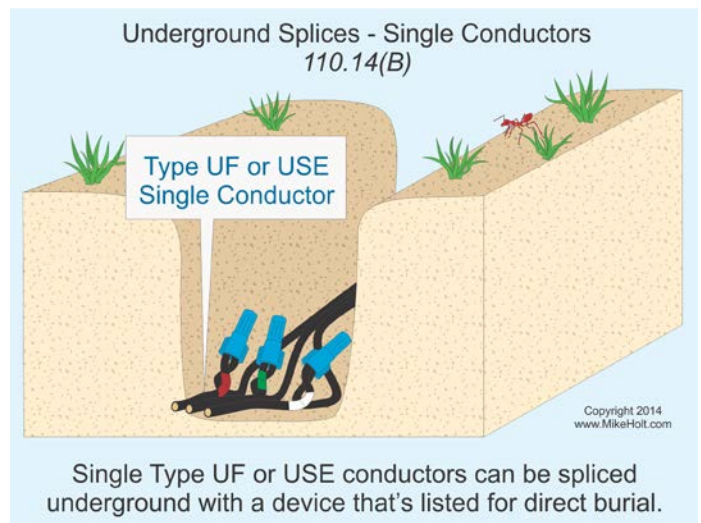

Figure 110-29
Single Conductors. Single direct burial conductors of types UF or USE can be spliced underground without a junction box, but the conductors must be spliced with a device listed for direct burial [300.5(E) and 300.15(G)]. Figure 110-29